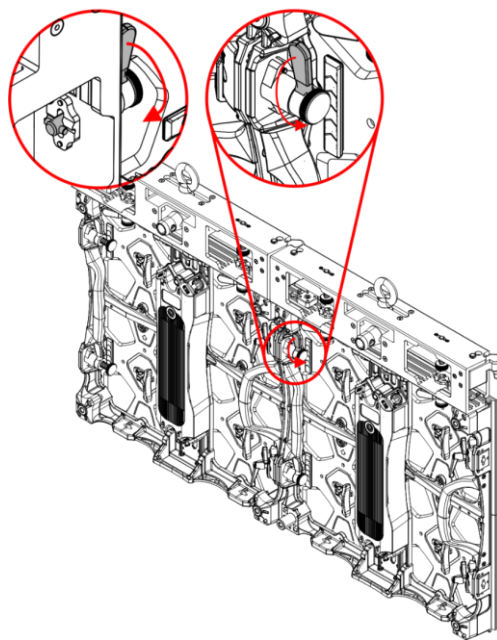

Fig. 49
- 04) Turn **lever (A)** of the top **locking mechanism (16)** clockwise to tighten the LED screen to the previous LED screen, as shown in Fig. 49 and 50.
- 05) Repeat steps 1–4 for the bottom **locking mechanism (16)** of the LED screen.